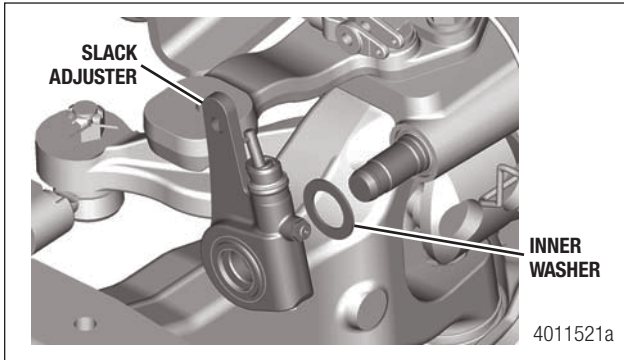

Figure 5.18
- Remove the slack adjuster and inner washer from the camshaft. Figure 5.18.